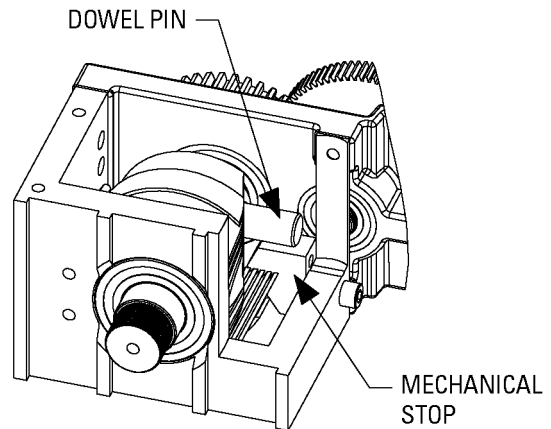

Fig. 14
2. Set the mode switch to Hold Open. The operator shaft rotates to its mechanical stop (fully open) and stays there. Verify that the dowel pin on the operator shaft is against the stop (see Fig. 14).